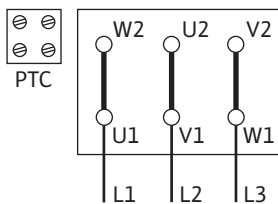

Fig. 14: Δ connection
- The mains connection is dependent on the motor power P_2 , mains voltage and activation type. Refer to the following table and Fig. 14, 15 and 16 for the required connection of the connecting bridges in the terminal box.